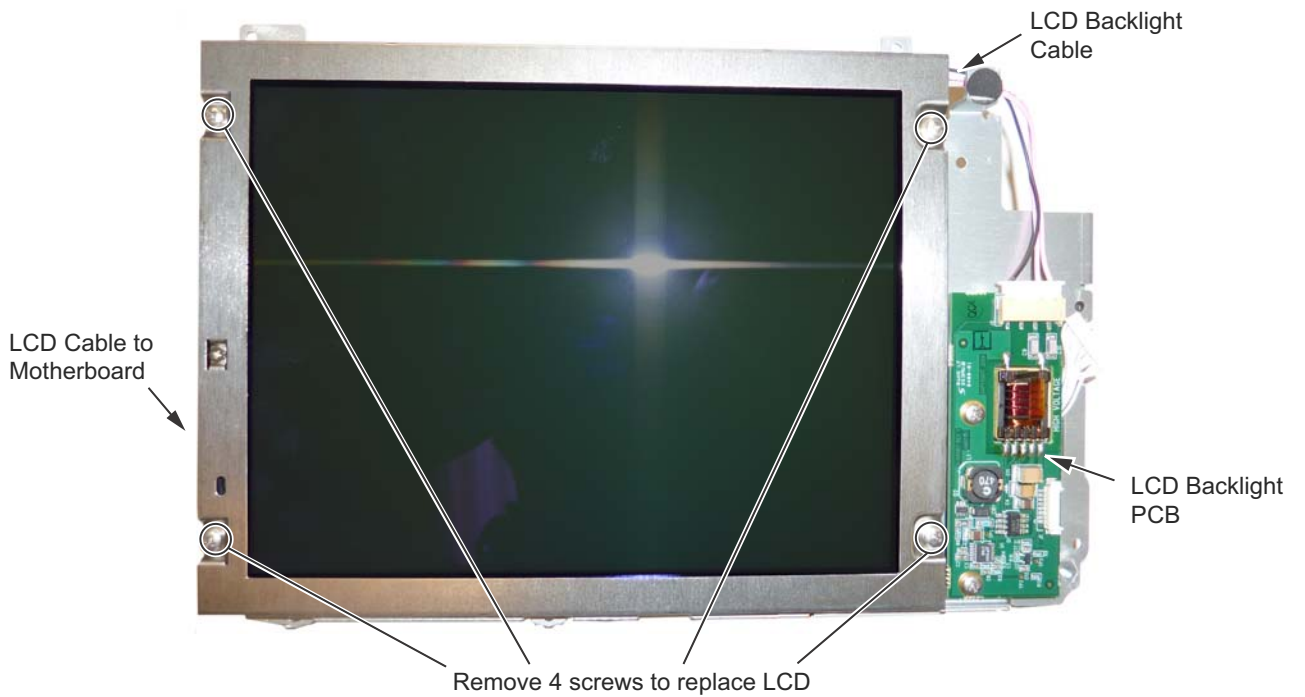

Figure 7-15. Replacing the LCD
5. Use a Phillips screw driver to remove the four screws securing the LCD to the housing (Figure 7-15).